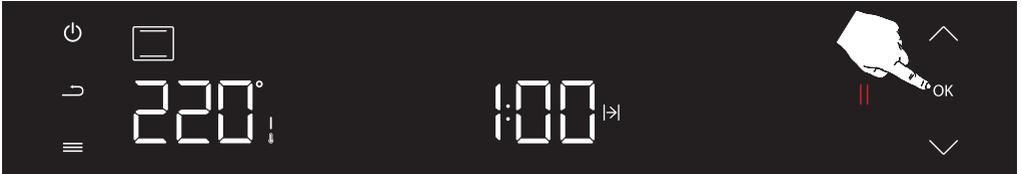

Figure 52
When the cooking function, cooking temperature and cooking time are set and cooking is active, long press the confirmation button (OK) and stop cooking. (see figure 52)